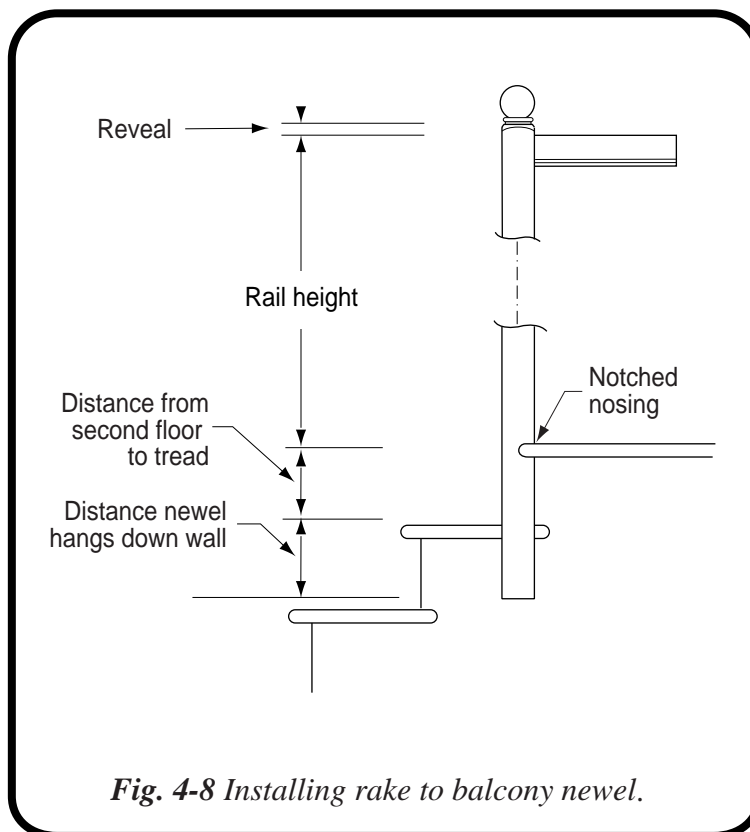

Fig. 4-8 Installing rake to balcony newel.
3. To determine the newel length, add the reveal, the desired balcony height (usually a minimum of 36-inches; refer to local building codes) and the distance from the second floor to the top of the tread (unless the newel is sitting entirely on the second floor). If the newel is to half lap down the wall, also add the distance you wish to run the newel down the wall. Please note Fig. 4-8 here.